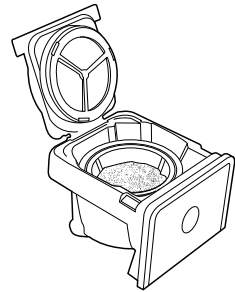

Figure 5
3. Add the desired amount of coffee and gently shake to level the coffee. See the Suggested Coffee Measurement Chart (Figure 5).